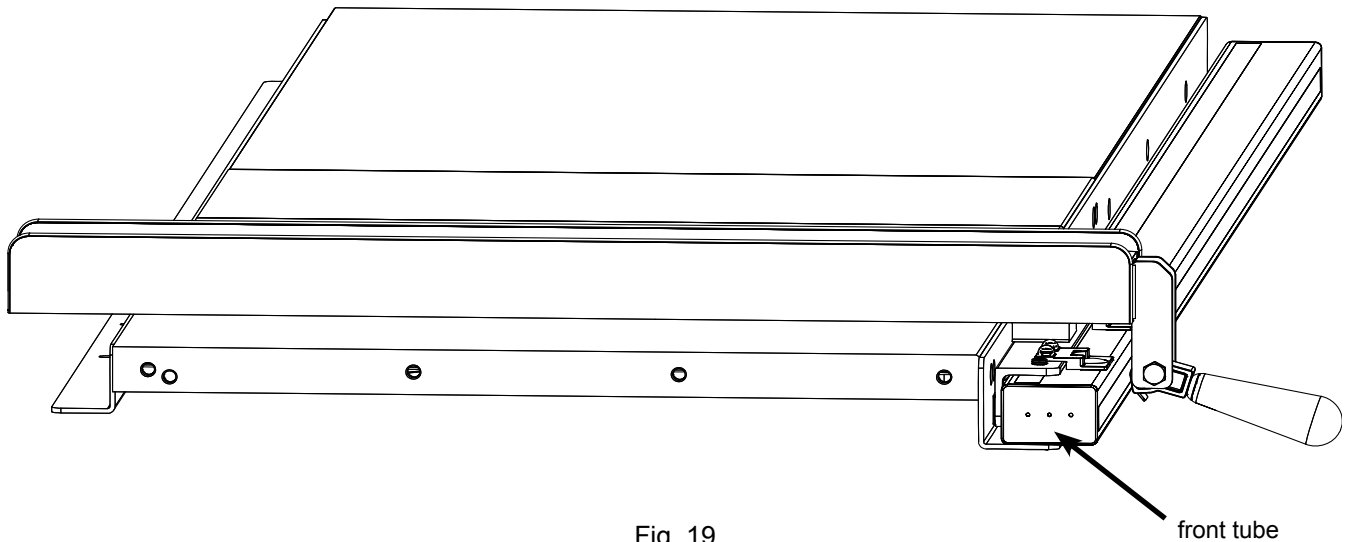

Fig. 19
19. The holes in the bottom of the front rail are oversized to allow you to adjust the position of the tube on the rail. To set the tube in the correct position, first pull the front tube away from the table as far as possible. Next, place your fence down on the tube near the left end (see Fig. 19).